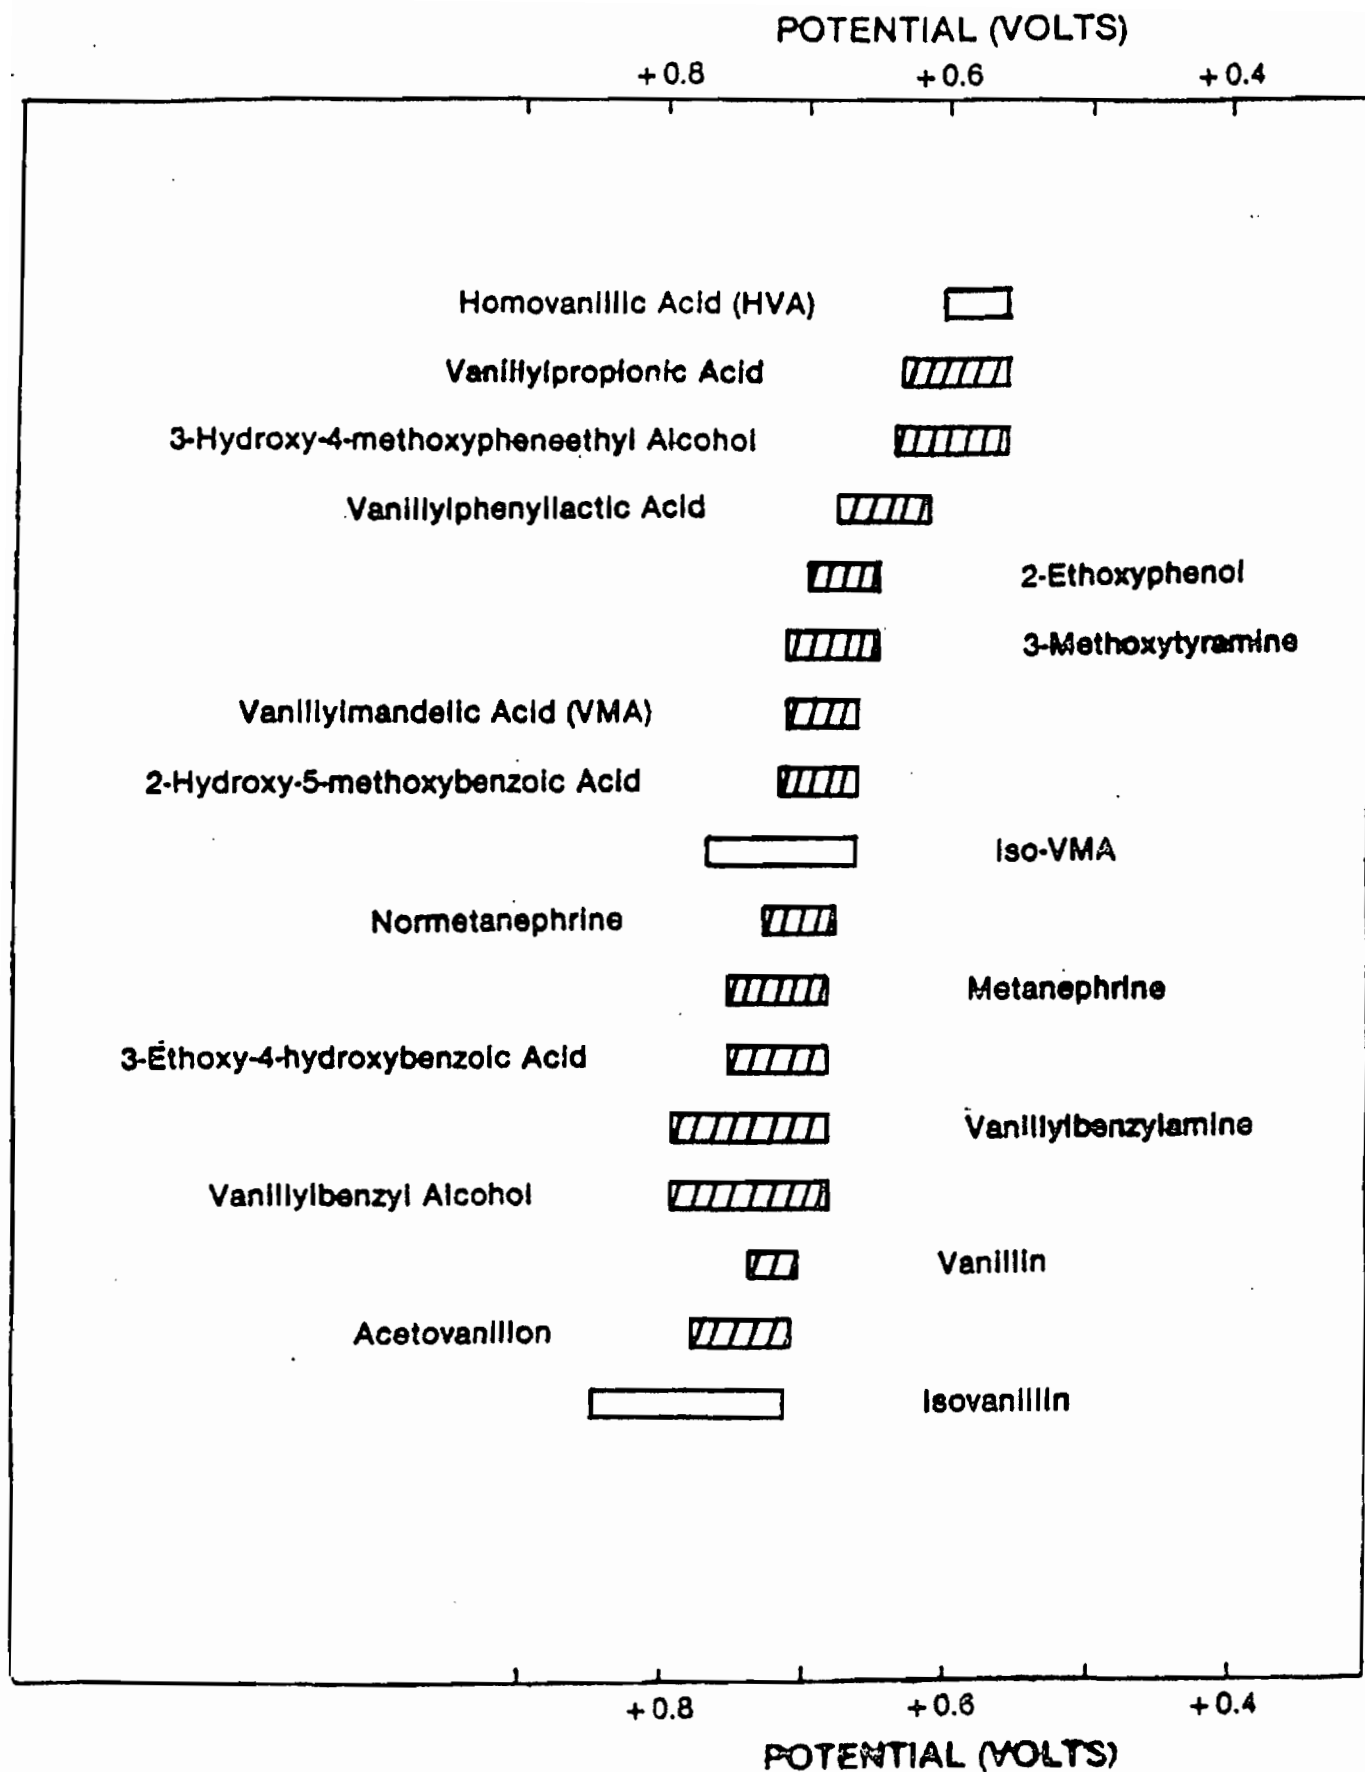

Figure 5 Oxidative Cyclic Voltammetric Data for Some Vanillyl Metabolites of Tyrosine and Related Compounds.
- Figure 5 Oxidative Cyclic Voltammetric Data for Some Vanillyl Metabolites of Tyrosine and Related Compounds.